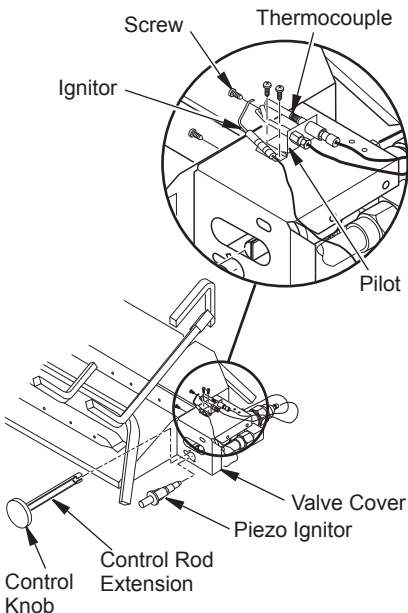

Figure 11 - Installing Cover, Control Knob, and Piezo Ignitor
10. Install thermocouple, pilot, and ignitor onto valve cover as shown in Figure 11. Use the provided screws.